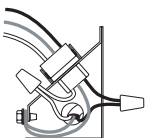

Figure 6
2. Using proper wire connectors, wire the fan as shown in Figure 6.